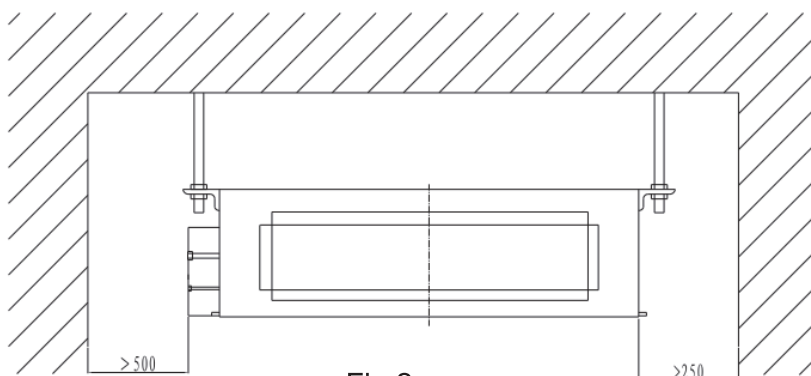

Fig 2
- There is enough space for maintenance and installation as listed in Fig 2;